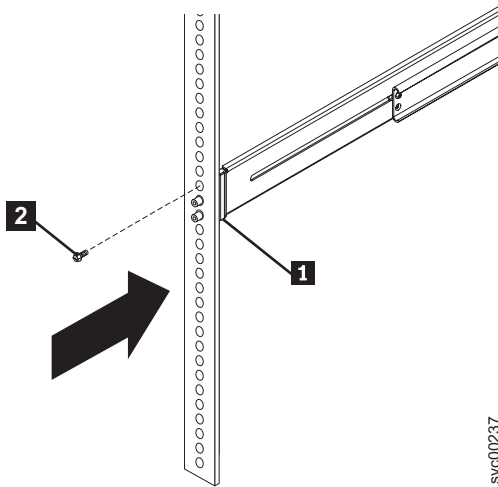

Figure 30. Attaching the slide rail to the rear mounting flange
6. Attach the slide rail to the left rear mounting flange **1** with a single screw **2**, as shown in Figure 30 on page 52. The screw should be only finger tight. Likewise, attach the other slide rail to the right rear mounting flange.